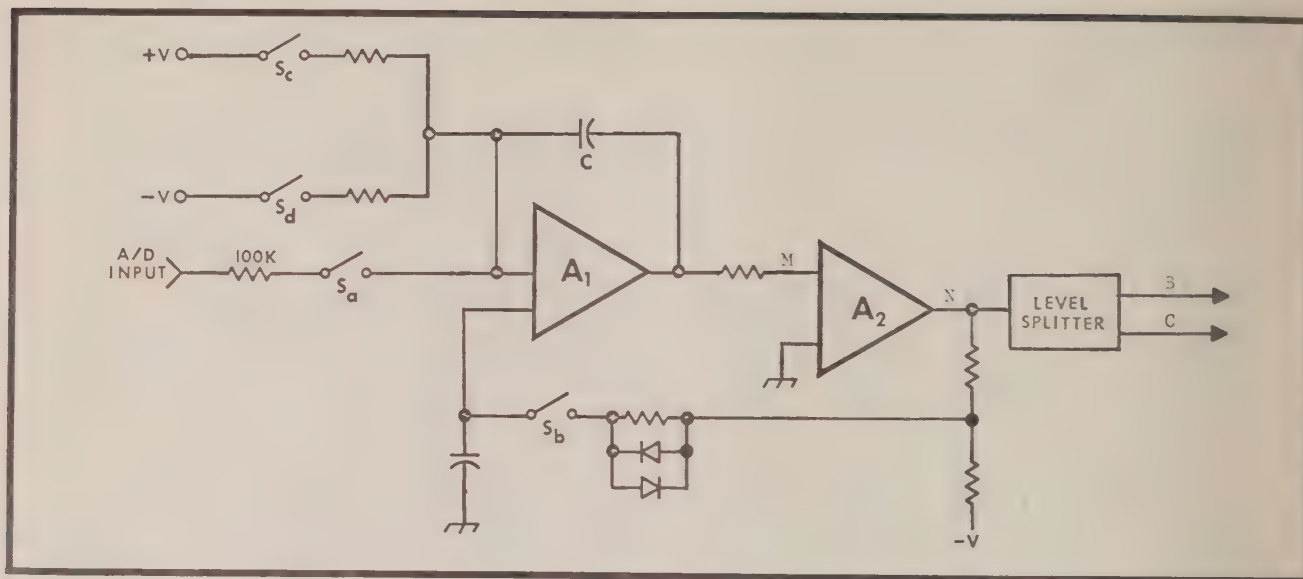

FIGURE 10. Integrator Block Diagram.
1. Zero Period. During this period the integrator amplifier is zeroed by a feedback rezeroing circuit as shown in Figure 10. Switches S_a , S_b , and S_d are open to prevent integrator charging.
1. Integrator Circuit. (Refer to Figure 10 for identification of switches S_a , S_b , S_c , and S_d). The operation of the Integrator is controlled by the positions of switches S_a , S_b , S_c , and S_d . Switch S_a is Q401. Switch S_b is transistor Q411. Transistors Q404, Q405, Q408, Q409, and Q410 are control circuits arranged to control the proper FET switches depending on the signals at pins 12 and 13. The integrator amplifier consists of transistors Q402 and Q403 and integrated circuit QA401. The feedback capacitor is C406. Switches S_c and S_d control the current for 9-volt zener diodes D401 and D402. Resistors R403, R404, R405, R409, R410, and R411 are full-scale calibration resistors. Potentiometers R402 and R408 are internal screwdriver calibration adjustments.
3. Feedback Rezzeroing Circuit. This circuit provides rezzeroing of the Integrator circuit using negative feedback from the Zero Crossing Detector output. Transistor Q411 is the equivalent of Switch S_b in Figure 10. Resistor R434 and capacitor C414 form a feedback-loop filter circuit. Diodes D407 and D408 provide fast response for large input offsets due to input overloads.